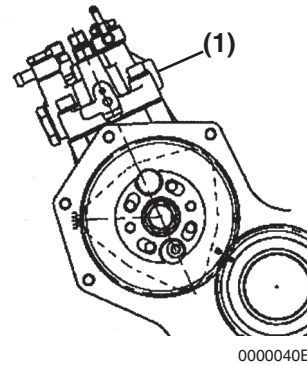
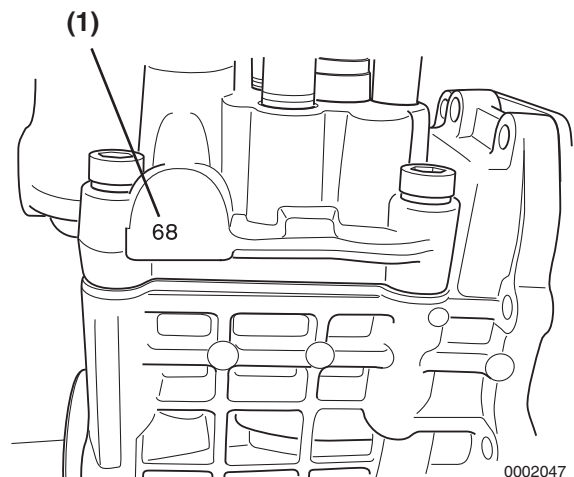

Figure 7-32
Figure 7-33
1. Locate and record the fuel injection pump timing index number (**Figure 7-33, (1)**) stamped into the boss on the engine side of the fuel injection pump housing (**Figure 7-32, (1)**). Treat this number as though there is a decimal point between the two digits. i.e. 68 = 6.8